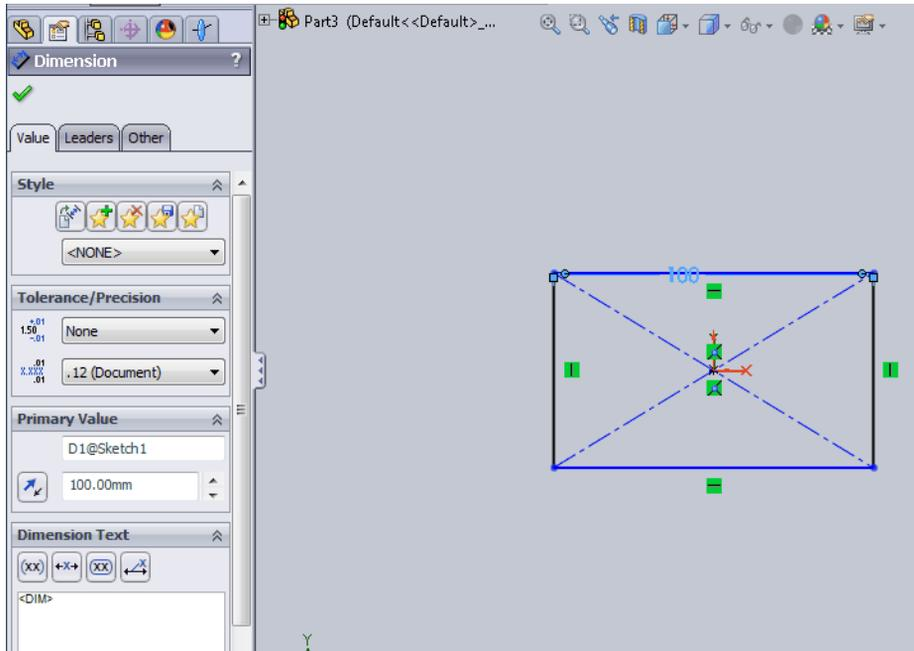

Figure 42 Rectangle in graphics area (right) and Dimension Properties PropertyManager (left)
- 9 Click the top line in the graphics area, and slowly click the dimension value to display the Modify dialog box. See Figure 42.